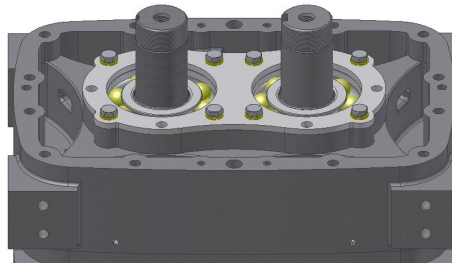

Figure 7-10 – BEARING RETAINER PLATE INSTALLATION
37. Install bearing retainer plate (15) onto gear-end bearing housing with eight bolts (17) and lock washers (16). Reference FIGURE 7-10.